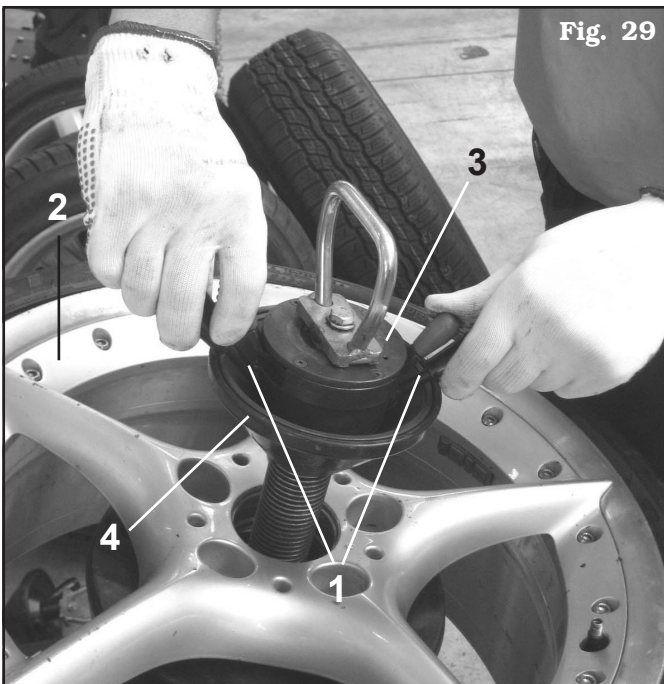

Fig. 29
5. Through the internal little levers (**Fig. 29 ref. 1**), loose the ring nut and approach the ring nut (**Fig. 29 ref. 3**) and cone (**Fig. 29 ref. 4**) to the rim (**Fig. 29 ref. 2**).